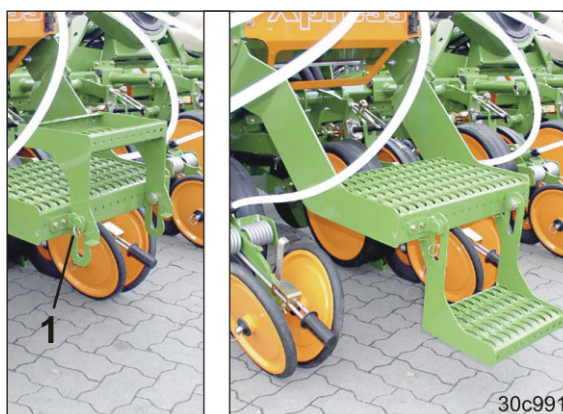

Fig. 226
3. Fold down the step (Fig. 226).
- 3.1 Remove the safety splint (Fig. 226/1).
7. Fold the step (Fig. 226/1) up again and secure with the safety splint (Fig. 226/2).